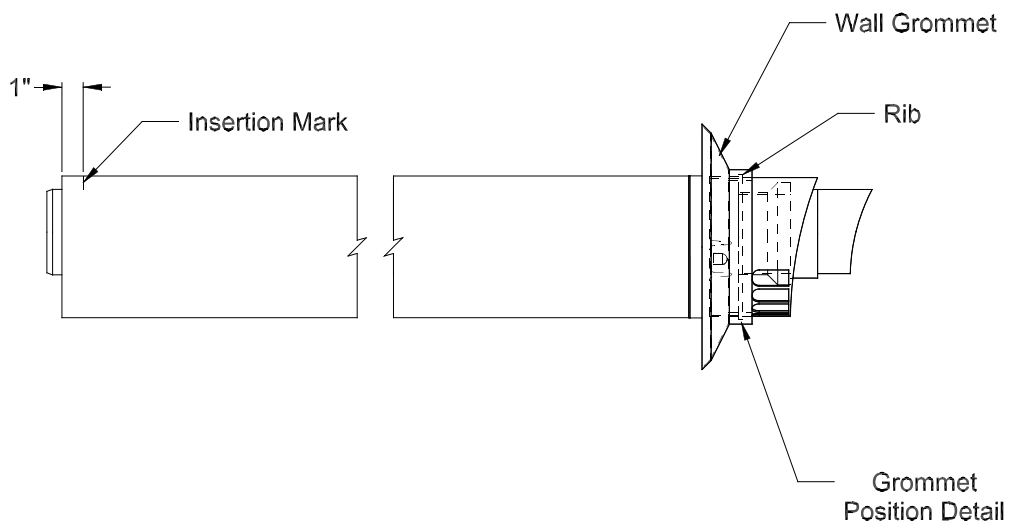

Figure 7.24: Preparing 60/100mm Terminal Section For Installation In The Wall
- f) Reinstall the inner pipe in the terminal section. Slip the outside wall grommet over the terminal section and position so that it covers the joint between the outer pipe and the terminal (Figure 7.24).
- g) Make a mark on the terminal section 1" from the cut end of the outer pipe as shown in Figure 7.24.